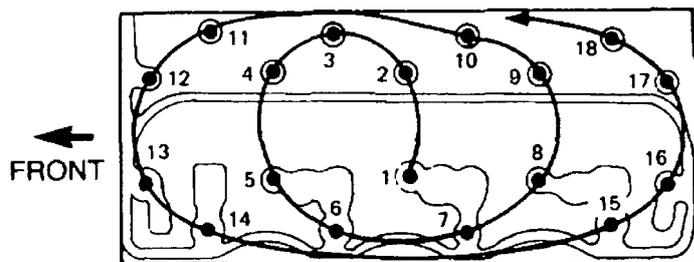

Figure 21 Cylinder Head Bolts Tightening Sequence
- n. Torque the cylinder head bolts in the sequence (Figure 21) in three steps as follows:
- (1) Step one – torque the bolts to 69 N.m (51 lbf.ft);
- (2) Step two – torque the bolts to 88 N.m (65 lbf.ft); and
- (3) Step three – torque the bolts a further 30 degrees.